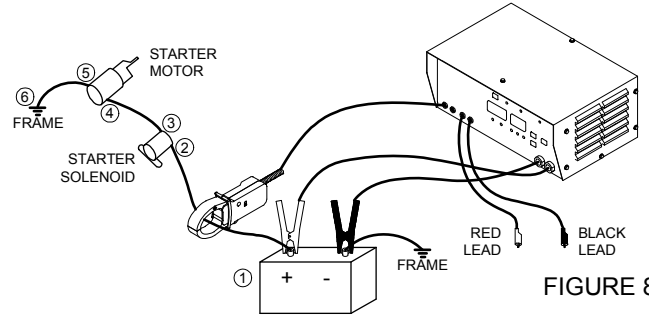

FIGURE 8
- Current draw of the starter, battery voltage, and voltage drop of leads can be measured when connected as shown (See figure 8).
Testing procedure using the Eternal Voltage leads: Review safety section in the front of the manual. (see figure 8)